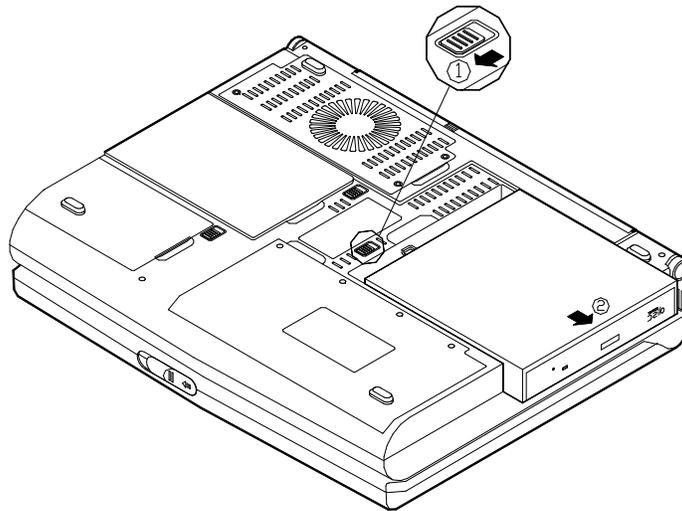

Figure 2-15
4. Press the latch in the direction indicated and slide the CD-ROM module out of the Notebook (Figure 2-15).